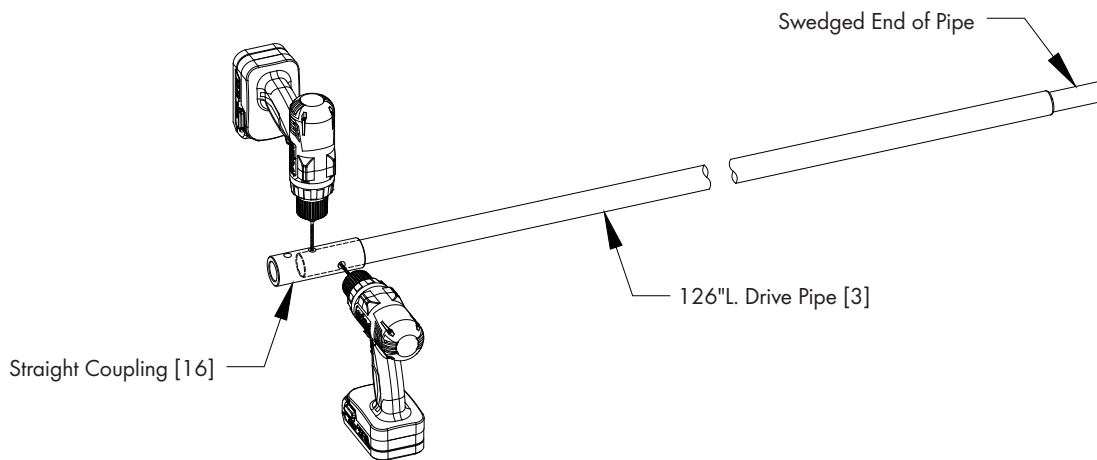

Figure 29
For the 126"L. Drive Pipe [3] that will be at the actuator end, slide the Straight Coupling [16] over the large end of the pipe so that the (2) holes are over the pipe. Then using these holes as a guide, drill (2) pilot holes through the pipe and then drill (2) 1 3/32" dia. holes through the pipe. See Figure 29.